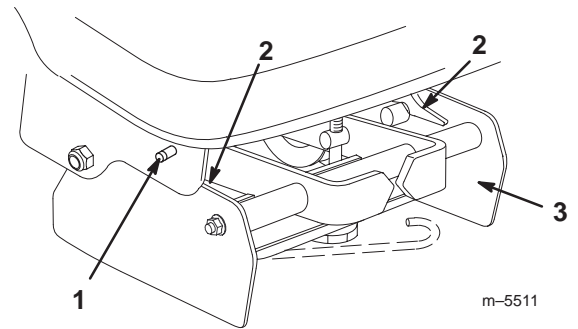

Figure 27
14. If you wish to remove the pulley box, push the latch release buttons on the front Attach-A-Matic™ (Fig. 27) and raise the latch levers to open the latches holding the pulley box. Remove the pulley box.